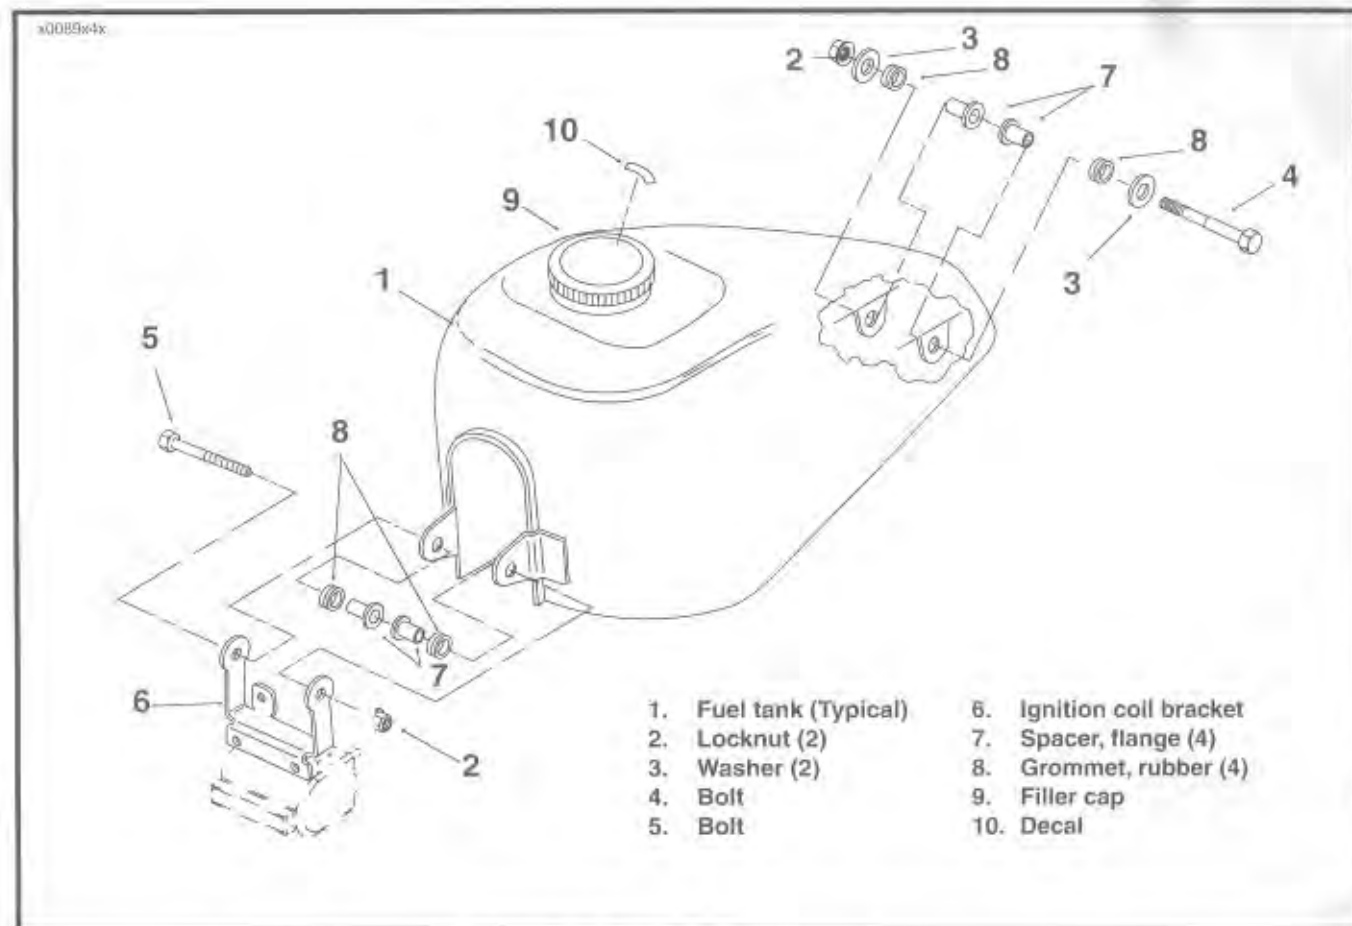

Figure 4-10. Fuel Tank Mounting Hardware
See Figure 4-10. The fuel tank is a one-piece welded tank. Although the tank interior is treated to resist rusting, further protection is required if the motorcycle is to be placed in storage. Drain the tank completely and apply a one-to-one oil/fuel mixture (or a commercially available fuel tank rust preventative) to the tank interior.
3. See Figure 4-10. Remove mounting hardware from front and rear of fuel tank.
3. See Figure 4-10. Install front and rear mounting hardware. Tighten fasteners to 8-16 ft-lbs (11-22 Nm) torque.